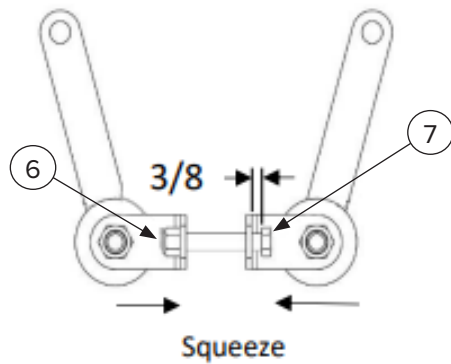

Figure 19
1. Adjust nut (Item 6) and bolt (Item 7) [Figure 19].